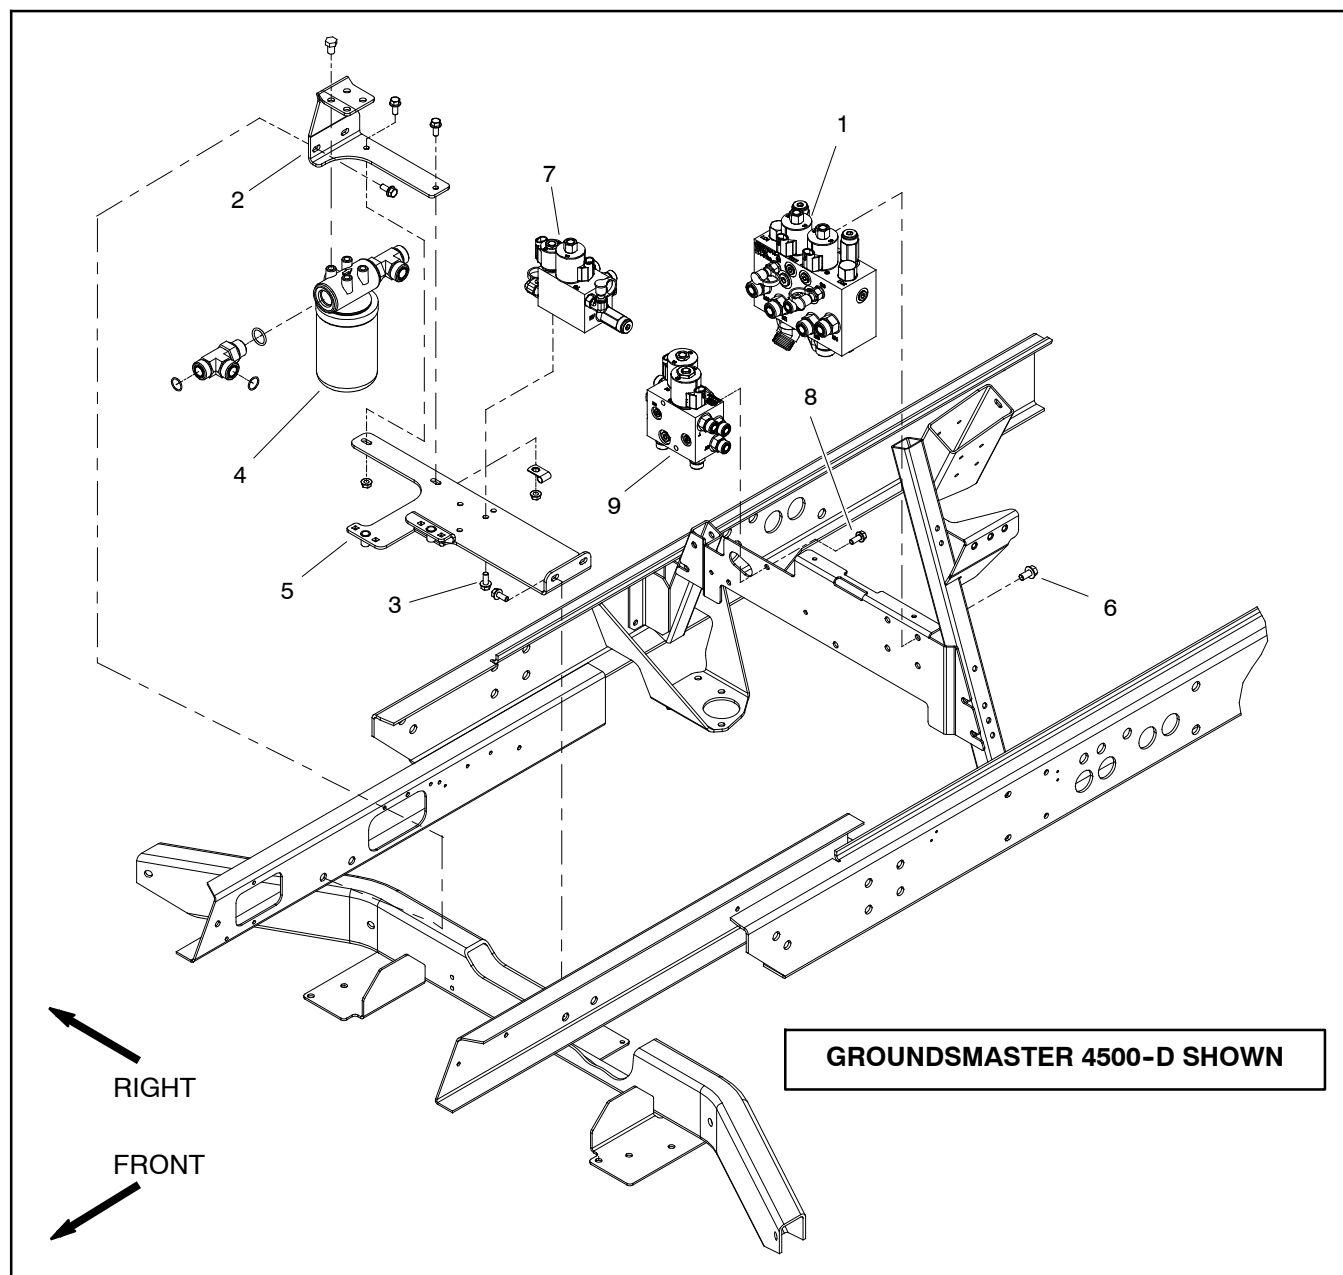

Figure 110
**NOTE:** The lift control manifolds used on Groundsmaster 4500-D and 4700-D machines are different but they mount to the machine in the same location. The Groundsmaster 4500-D control manifolds are shown in Figure 110.
## Removal (Fig. 110)
7. Remove hydraulic manifold from the frame using Figure 110 as guide.
## Installation (Fig. 110)
2. Install hydraulic manifold to the frame using Figure 110 as guide.